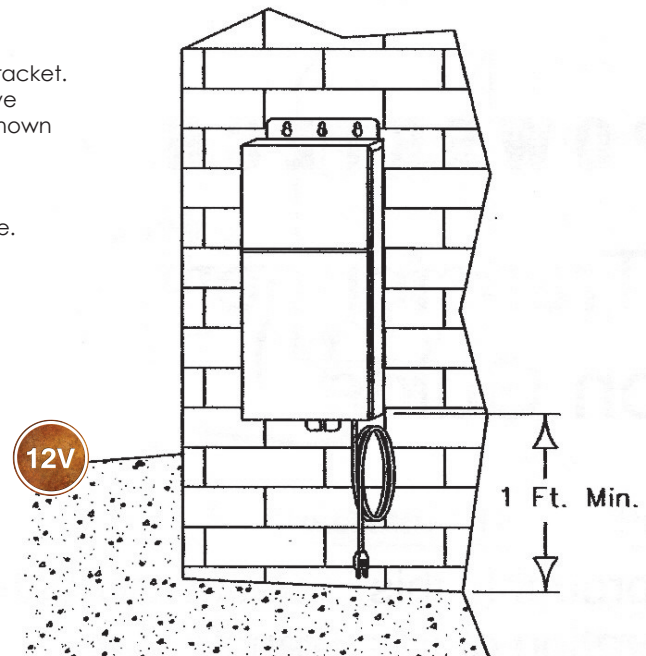

Figure 1
1. **MOUNTING THE TRANSFORMER:** Mount the Transformer to a solid surface using the keyhole slots in the mounting bracket. Make sure to mount the transformer at least one foot above ground level with the wire terminals facing downward as shown in Figure 1.